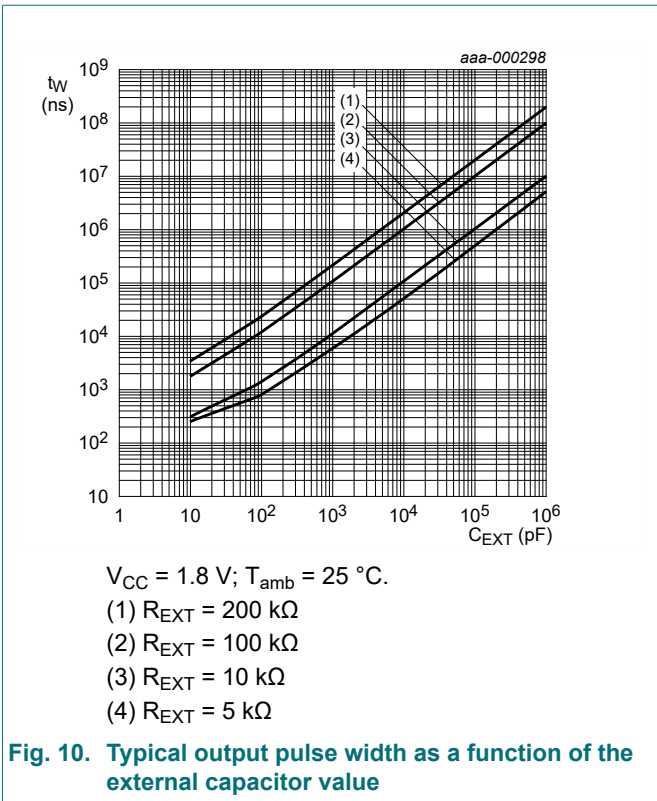

Fig. 10. Typical output pulse width as a function of the external capacitor value
- [3] For other R_{EXT} and C_{EXT} combinations see Fig. 10, Fig. 11 and Fig. 12. If C_{EXT} > 10 nF, the next formula is valid.